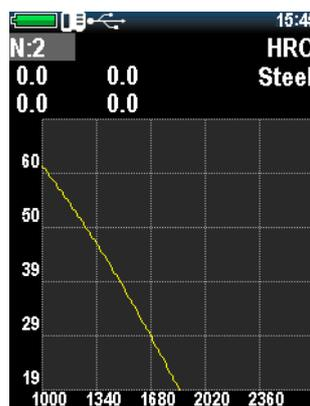

Figure 2.36 – Two points calibration
4. Press < > key to select the number of the calibration points. If there are two samples, user must select 2 using the keys < > and < >, to confirm press < > (Figure 2.36).